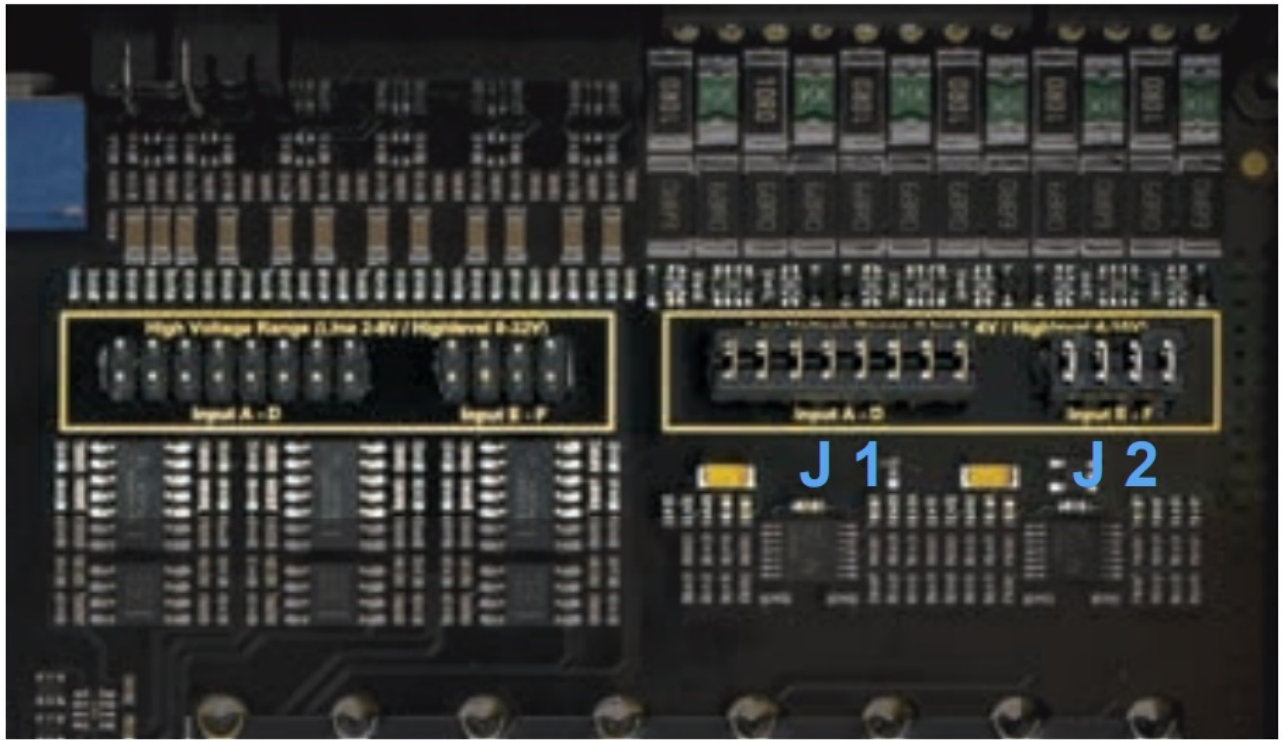

Figure 1
1. Setting the input voltage range ("Voltage Range") of the analog signal inputs **ATTENTION:** When using the analog inputs (lowlevel & highlevel) as signal input, it is mandatory to adjust the "Voltage Range" to the output voltage of the signal source before the first start up in order to avoid damage to the amplifier. At first, the "Voltage Range" of the analog inputs has to be set inside the device. Remove the bottom plate by loosening the 10 Allen screws. Now you have access to the jumpers (**see fig. 1**). Each jumper sets the value range for the corresponding input channels (J1 – channel A – D and J2 – channel E – F).